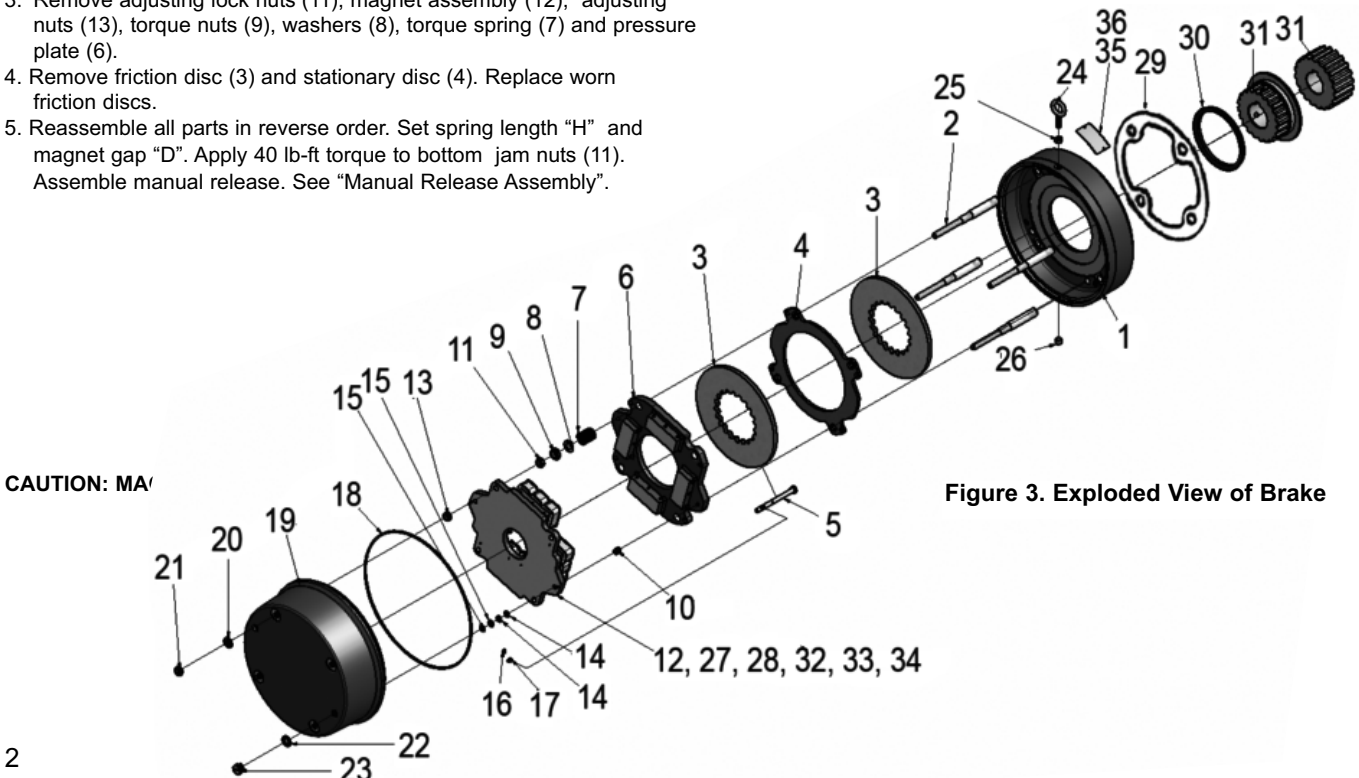

Figure 3. Exploded View of Brake
(See Figures 3 & 4 and Tables 1 & 2)
MANUAL RELEASE (See Figure 3)
TORQUE ADJUSTMENT (See Figures 3 & 4 and Table 2)
(See Figures 3 & 4, Table 2)
MANUAL RELEASE ASSEMBLY (See Figure 3)
When assembling a standard manual release mechanism (Figure 3), add only enough shim washers (14 & 15) to obtain proper release action. Too many shim washers will prevent automatic reset when electrical power is applied. Too few washers will prevent the motor shaft from turning freely. Replace stop screws (17). Wind each torsion spring (10) approximately 1/4 turn and hook spring loop over pin.